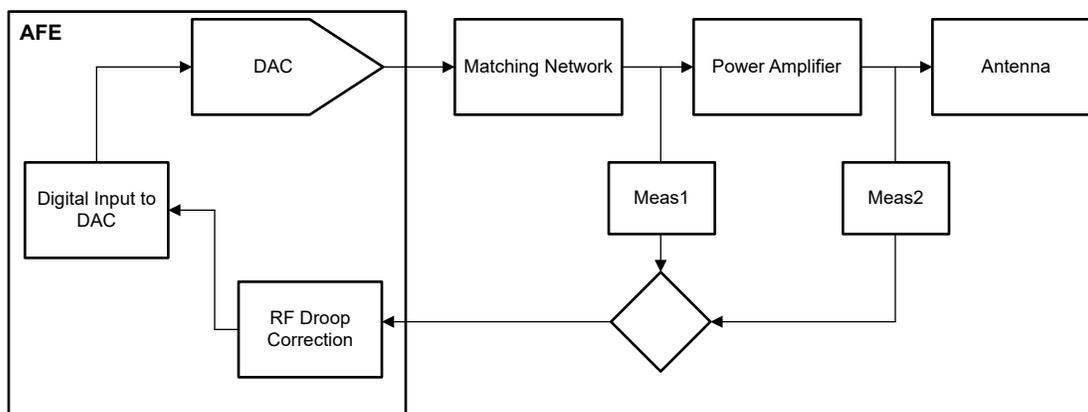

Figure 2-1. RF Circuit
3. **Power amplifier:** In general, systems employ a power amplifier at the output of transmitter and before the antenna as shown in Figure 2-1. This power amplifier also gives rise to a particular frequency response according to the parameters.
This section explains how to use and enable the RF droop correction in AFE8092. Figure 2-1 shows a common RF circuit and the tap-off points from where the input measurements can be taken. If *Meas1* tap-off point is chosen, the RF droop introduced until the output of Matching Network is corrected. If *Meas2* tap-off point is chosen, the RF droop introduced until the output of Power Amplifier is corrected.
2. Transmit tones at F_{NCO} , $F_{NCO} - \Delta F$ and $F_{NCO} + \Delta F$, measure the amplitudes at either Meas1 or Meas2 tap-off point as shown in Figure 2-1.